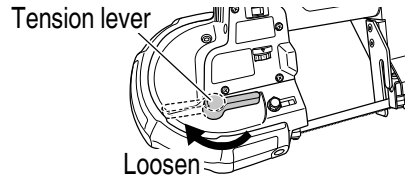
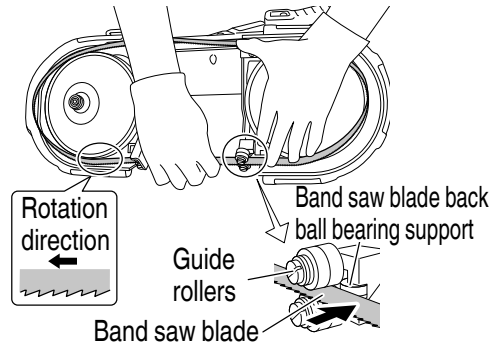

Fig. 14
Fig. 15
- (1) Loosen the tension lever in the direction indicated in the figure. **(Fig. 14)**
- (2) Being careful of the direction of revolution and the facing of the band saw blade (see figure), place the band saw blade in Guide roller, installing the band saw blade until it comes into contact with the Band saw blade back ball bearing support.
- (3) Holding the band saw blade in place so it doesn't come loose, seat the band saw blade in Blade pulley. **(Fig. 15)**
- (2) Remove the band saw blade first from pulley guard (C) (① in the figure), then from blade pulley (A) and blade pulley (B), and lastly from the guide rollers section (② in the figure) to remove it completely.